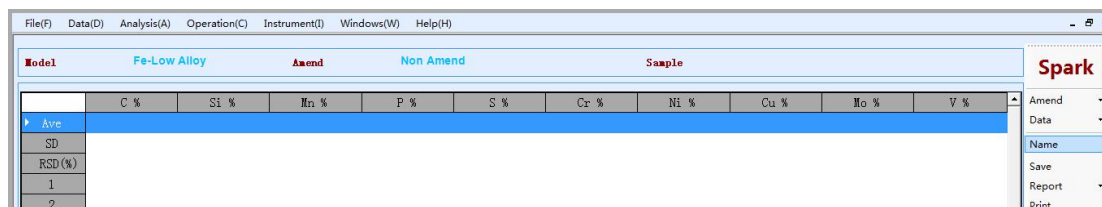

Figure 5-1 Simple data processing
Step 1 Enter the “sample name” and click “Save”, as shown in Figure 5-1: